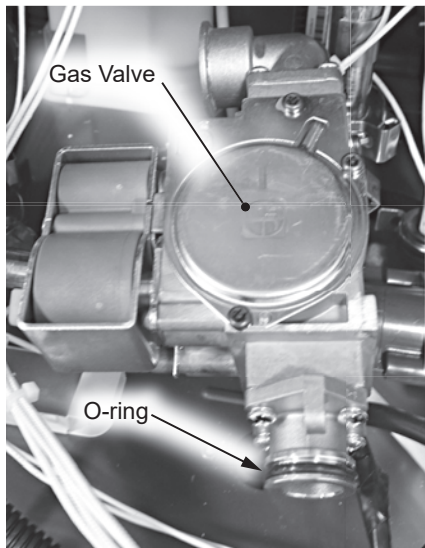

Figure 69 - Gas valve o-ring
- 14** Locate the new O-ring included in the kit, install it as shown in Figure 69.